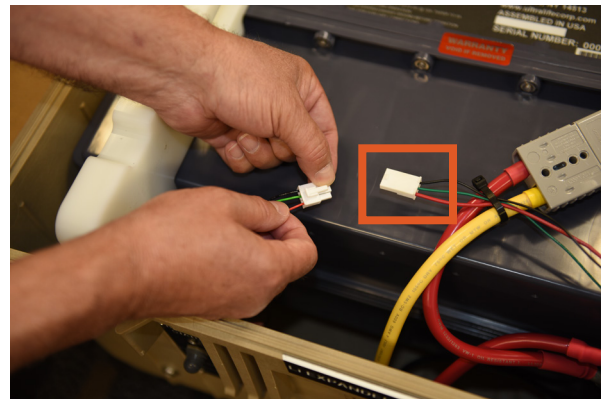

Figure 17. Inspecting Molex connector
7. Inspect the white plastic Molex connector for damage (Figure 17). Tug gently on the three (3) wires inserted into both ends of the connector to determine if there is a bad crimp or improperly seated pin. Reconnect any wires that are not properly connected. If the wires are properly connected, move on to step 8.